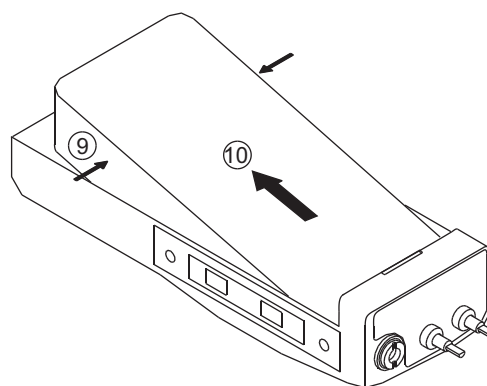

Figure 9B-Main Board Removal & Installation
9. Grip the Main Board near the indicated arrows as shown in Figure 9B.
10. Gently work the Main Board in an up & down motion and pull in the direction indicated by the arrow in Figure 9B.